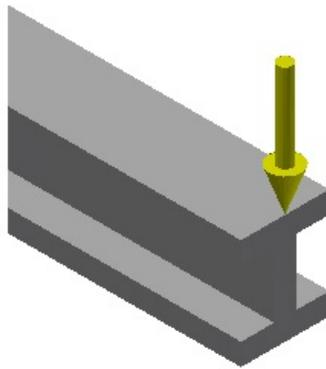

Figure 18-50 Model after applying the load
6. Choose the **OK** button from the **Force** dialog box to apply the load and to close it. Figure 18-50 shows the model after applying the load.